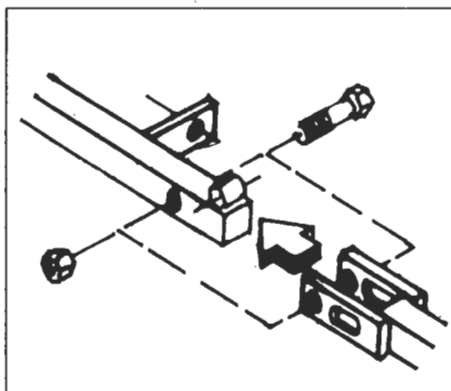

FIG. 4
- A) Slip the clevis end of wing over end of main frame (as shown in **figure 4**). Align the hole in the end of the clevis with the hole in the main frame (handle should be on back side of unit).